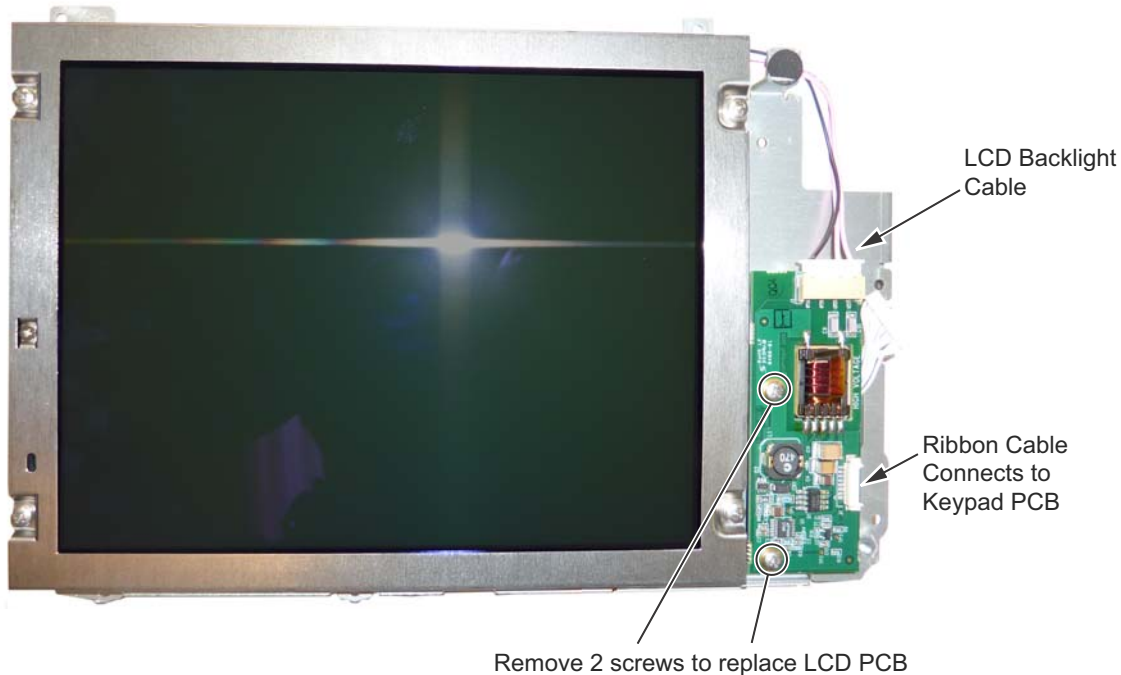

Figure 7-16. Replacing the LCD PCB
5. Use a Phillips screw driver to remove the two screws securing the LCD backlight PCB to the Main PCB assembly (Figure 7-16).